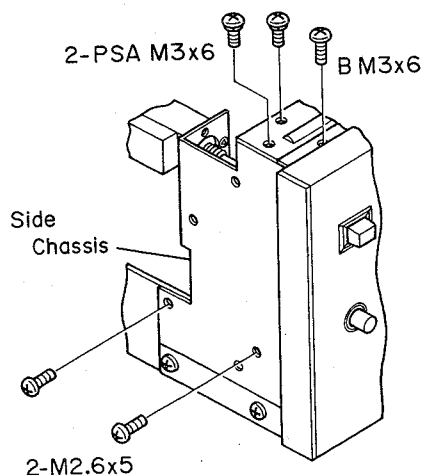

Fig. 4-9 Side Chassis
1. See Fig. 4-9. Remove three screws then separate the Side Chassis from the Main Chassis to facilitate dismounting of the Motor.
5. Further remove the Capstan Motor from the Motor Base by removing three mounting screws (B).